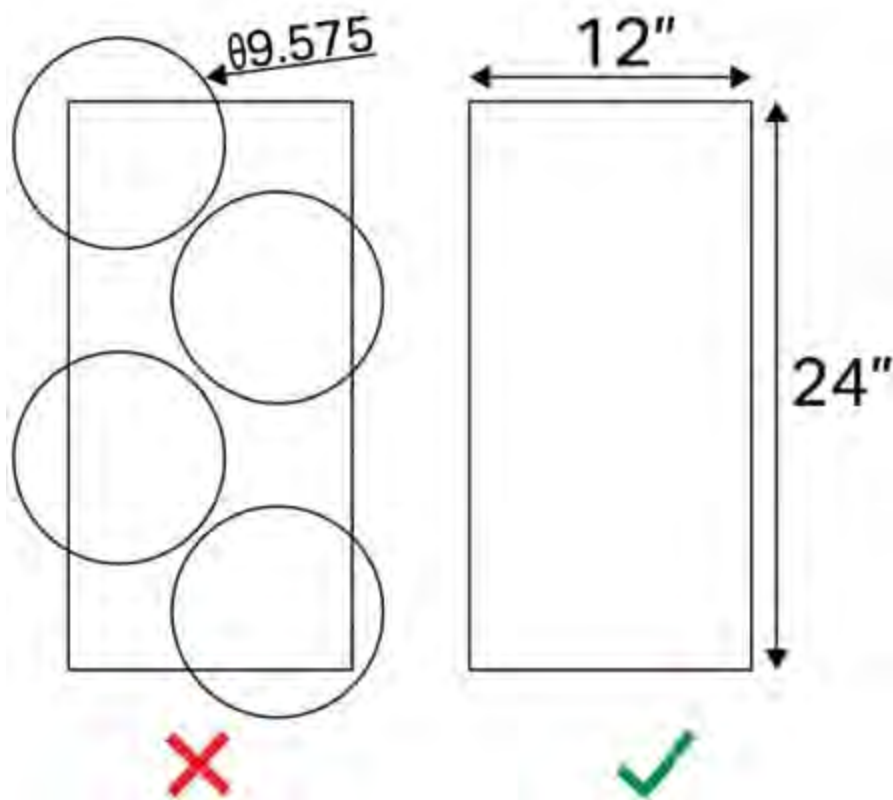

Figure 36: Custom plastic parts must fit within a single 12" x 24" sheet of plastic.
- i. A collection of parts which theoretically have a total surface area of 288 in2, but cannot be nested onto a single 12" x 24" sheet, would not be legal. See Figure 36.